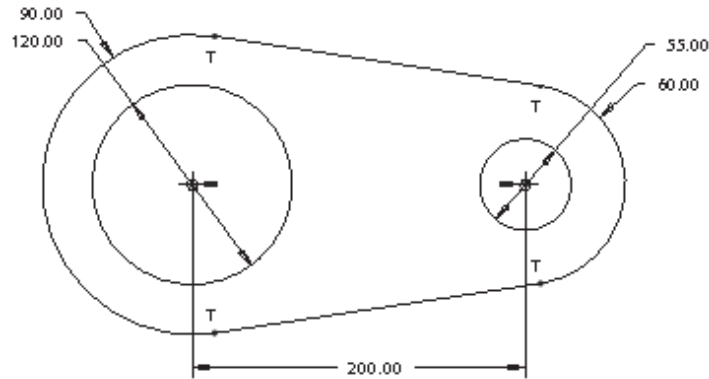

Figure 1-38 The complete sketch with dimensions and constraints
- Dimension the sketch and then modify the dimensions of the sketch, refer to Figure 1-38
The sketch is completed and is shown in Figure 1-38.